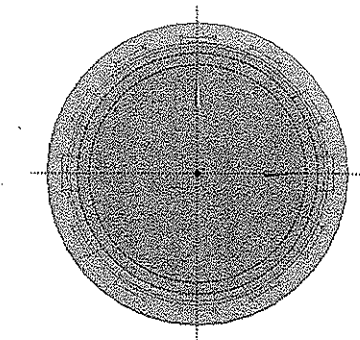

Figure 5-69 Pattern created using the Replicate tool
13. Similarly, create 10 more instances of the sketch, as shown in Figure 5-69.